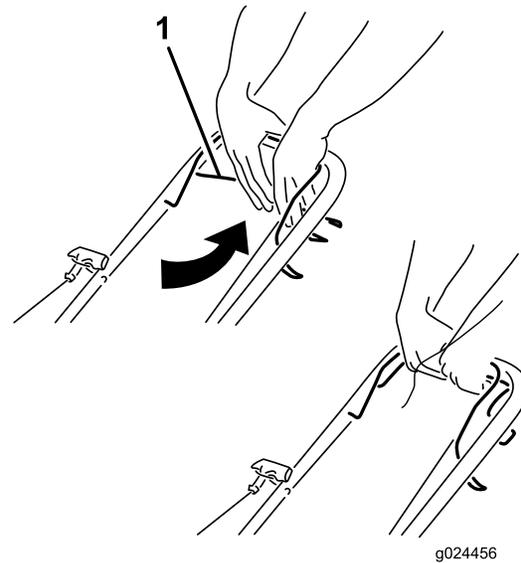

Figure 15
- **To engage the self-propel drive:** Squeeze the self-propel-drive bar against the handle and hold it (Figure 15).